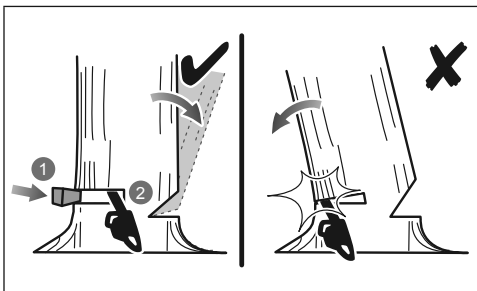

FIG. 30
2. As the felling gets close to the hinge, the tree should begin to fall. If there is any chance that the tree may not fall in desired direction or it may rock back and bind the saw chain, stop cutting before the felling back cut is complete and use wedges of wood, plastic or aluminium to open the cut and drop the tree along the desired line of fall (Fig.30).
REMOVING BUTTRESS ROOTS (Fig.30)